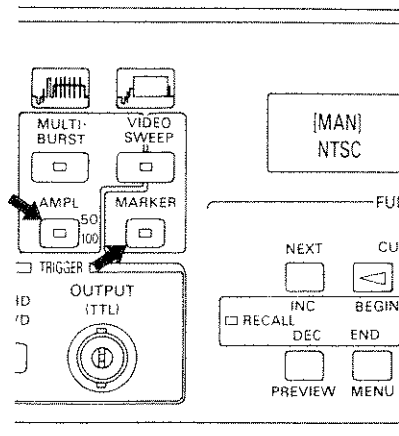

Figure 4.7
4.2.6 Setting 50% or 100% Level for Multiburst or Sweep Output, and Sweep Frequency (See Figure 4.7)